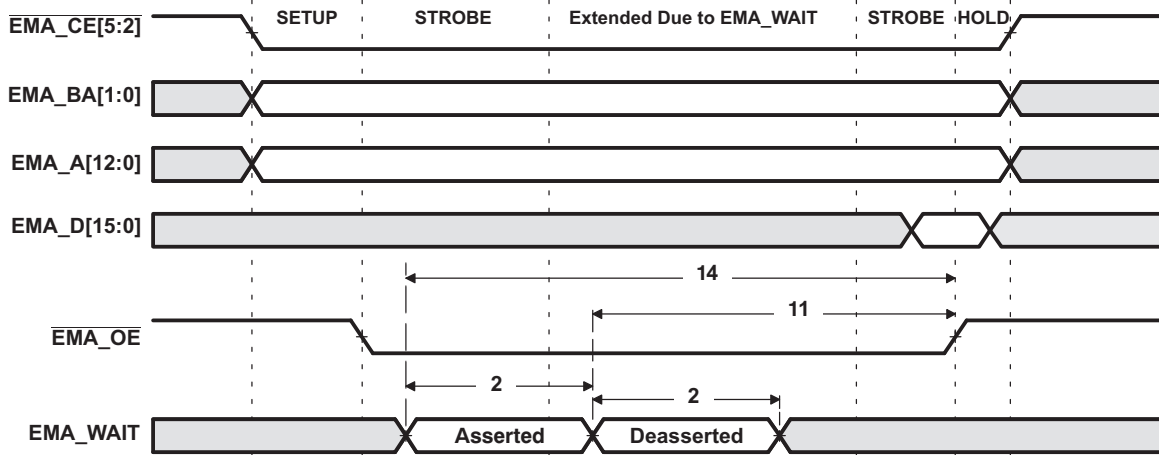
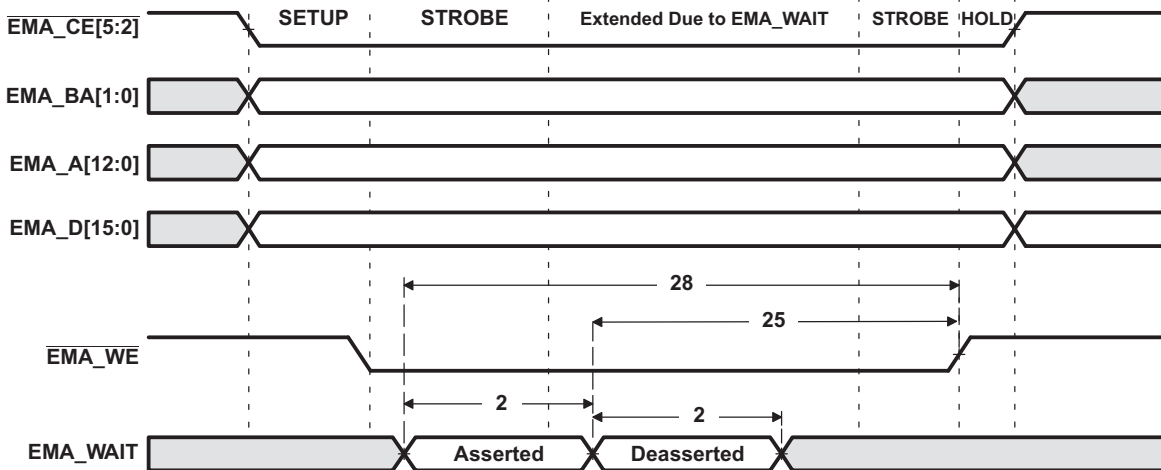

Figure 6-16. EMA\_WAIT Read Timing Requirements
Figure 6-17. EMA\_WAIT Write Timing Requirements
(1) E = EMA\_CLK period or in ns. EMA\_CLK is selected either as SYSCLK3 or the PLL output clock divided by 4.5. As an example, when SYSCLK3 is selected and set to 100MHz, E=10ns.
(2) Setup before end of STROBE phase (if no extended wait states are inserted) by which EM\_WAIT must be asserted to add extended wait states. Figure 6-16 and Figure 6-17 describe EMIF transactions that include extended wait states inserted during the STROBE phase. However, cycles inserted as part of this extended wait period should not be counted; the 4E requirement is to the start of where the HOLD phase would begin if there were no extended wait cycles.